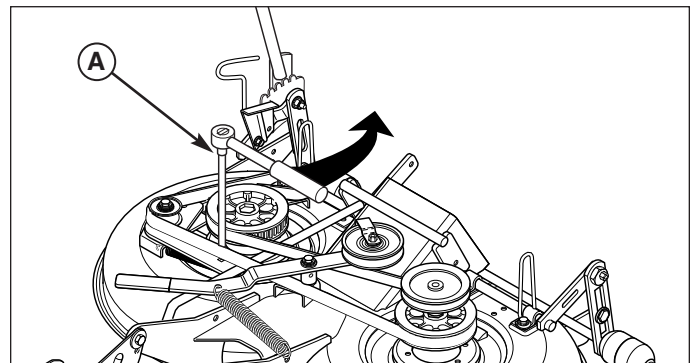

Figure 39. Release Belt Tension
4. Using a ratchet (A, Figure 39), move the idler assembly (H) to relieve tension on the belt (F).
5. Remove the belt (F).
6. Install a new belt (F) on the pulleys as shown. Releasing the idler assembly (H) allows the spring to automatically tension the cogged belt.
7. Tighten the idler assembly capscrew (G). Reinstall the belt covers.